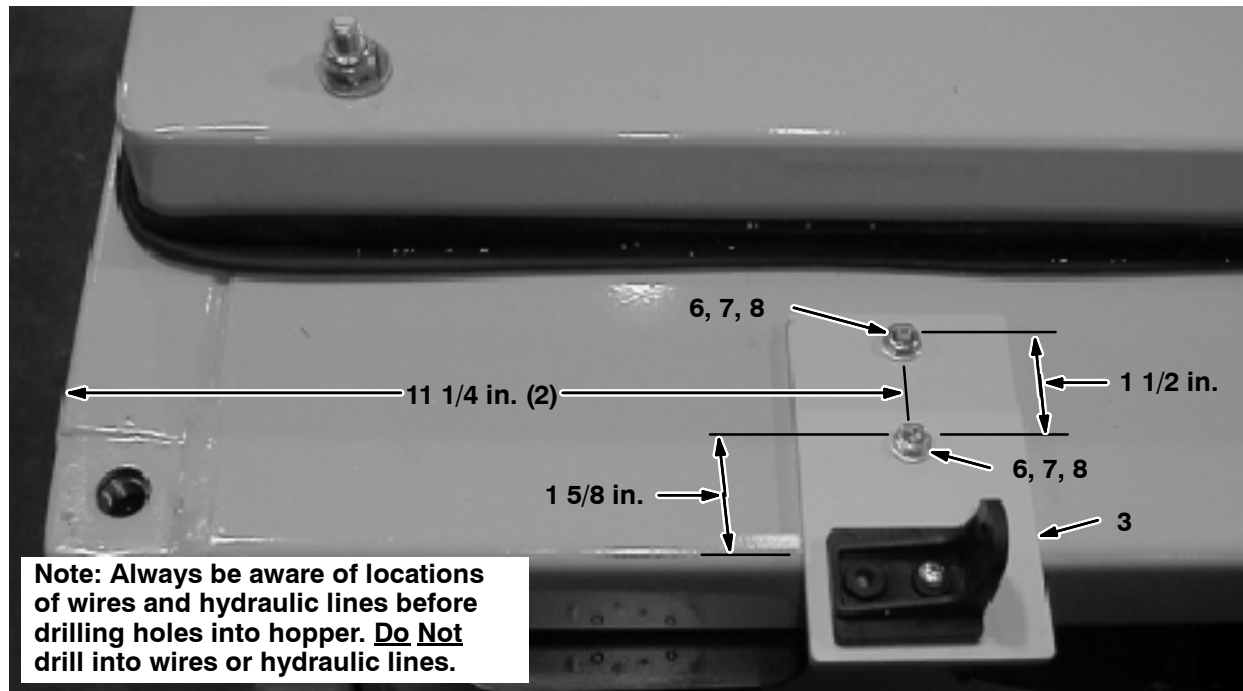
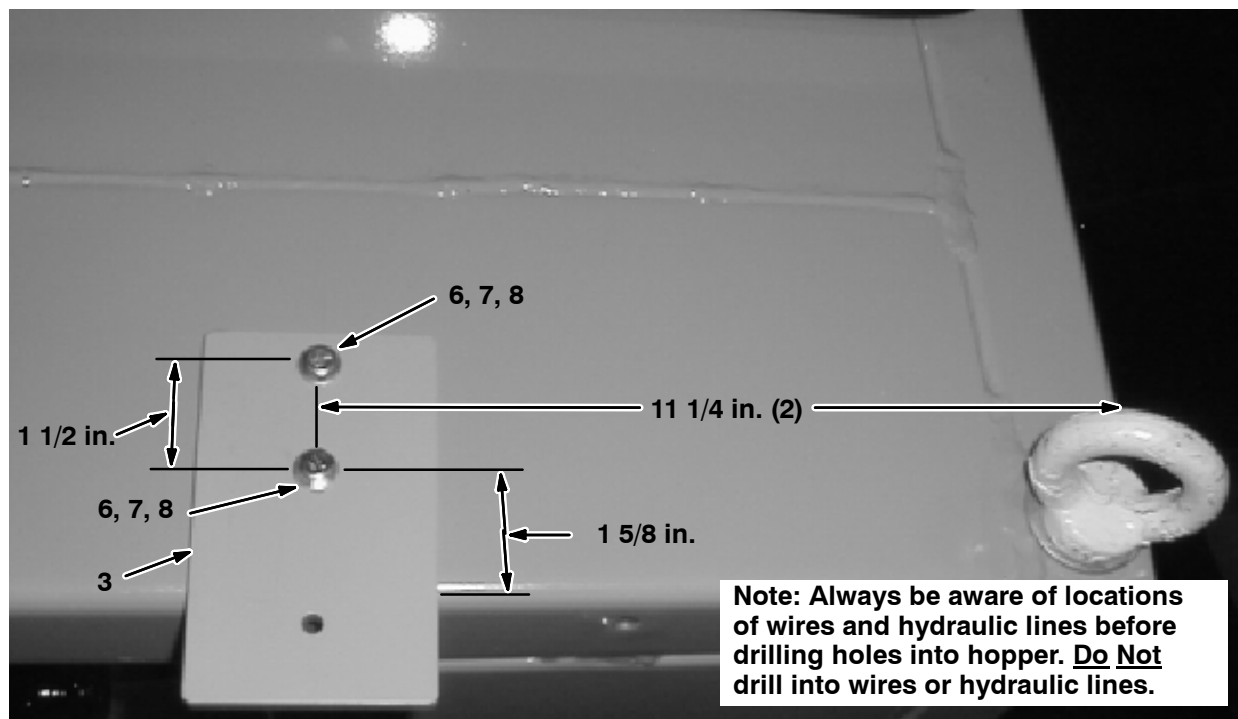
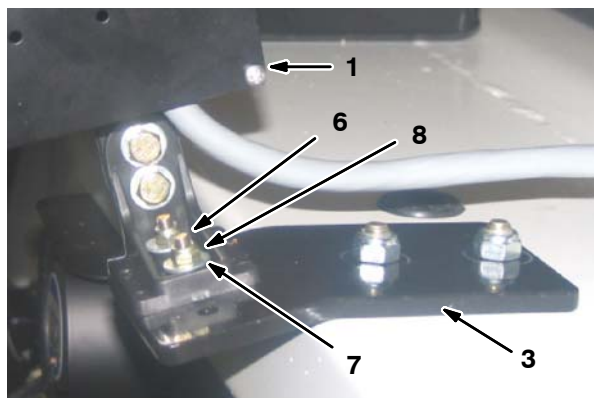

FIG. 12
FIG. 13
FIG. 14
16. Drill four 1/4 in. holes into the top of the hopper. Refer to Fig. 13 and Fig. 14.
19. Use two hex screws (6), two flat washers (7) and two hex nuts (8) to mount each mounting plate (3) to the hopper. Refer to Fig. 12 and Fig. 13.
20. Use four hex screws (6), four flat washers (7) and four hex nuts (8) to mount the arrow stick light (1) to the mounting plates (3). Refer to Fig. 12.
21. Route the cable from the arrow stick light (1) down through the 7/8 in. hole drilled in Step 18. Refer to Fig. 12.